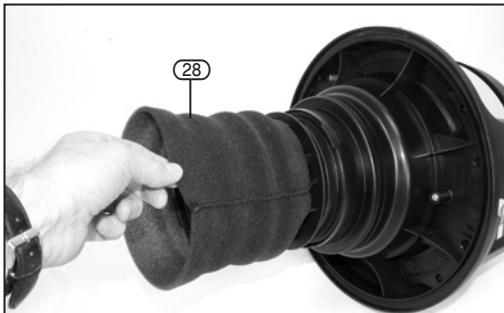

FIG. 12
8.2 FITTING THE ANTI-FOAM FILTER – FIG. 12